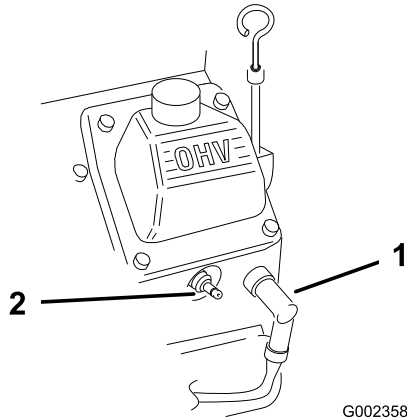

Figure 28
2. Disconnect the wires from the spark plugs (Figure 28).